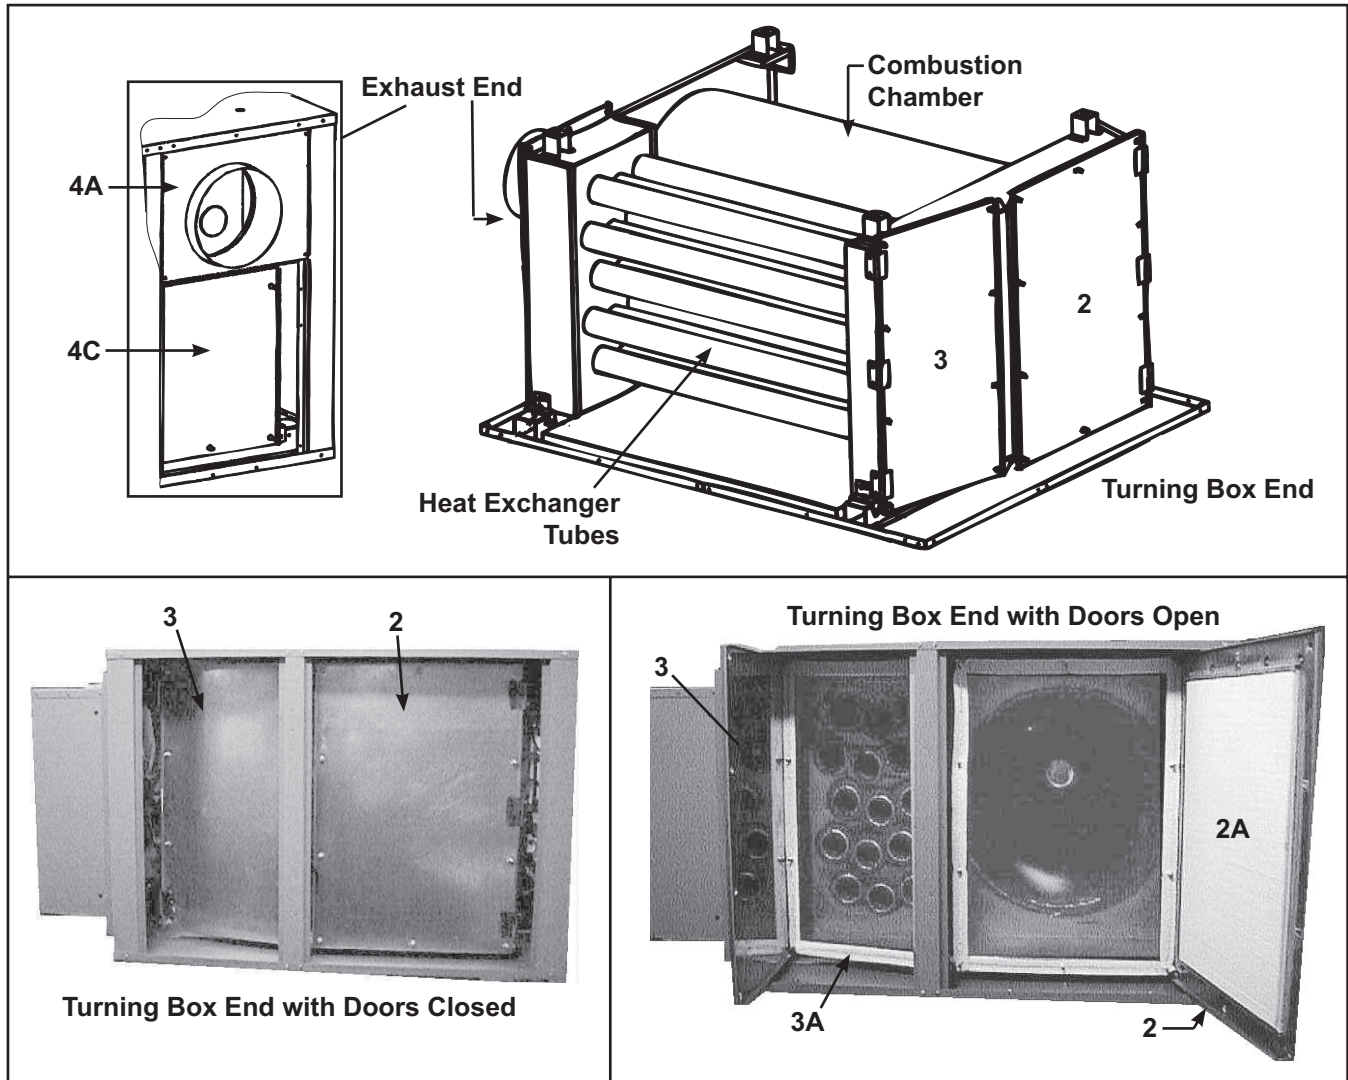

Figure 28. Heat Exchanger/Combustion Chamber and Exhaust Box Assemblies—RA and RAD Models, Unit Size 500 (Refer to Table 19)
- Heat exchanger/combustion chamber assembly and exhaust box components for RA and RAD models—unit size 500—are shown in Figure 28 and listed in Table 19.